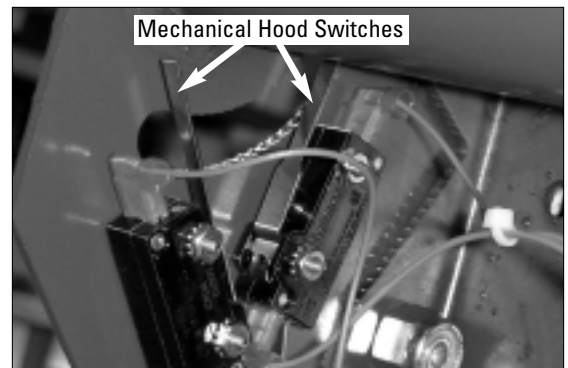
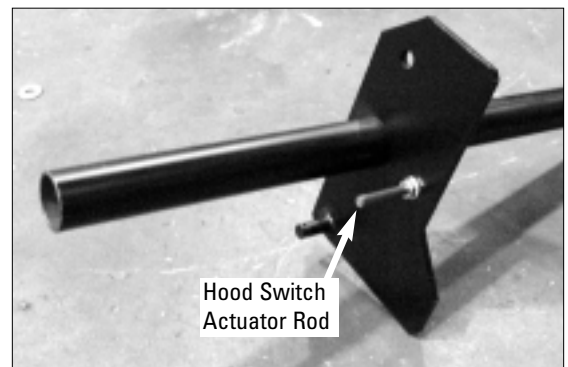

Figure 4 - Mechanical Hood Switches inside the Hood Bracket
Figure 5 - Actuator Rod on the Hood Bar Assembly
- 9.** Locate the slot on the hood bracket labeled "Install Pin Here". The slot is covered by Styrofoam to separate and protect the mechanical switches, shown in figure 4, that are located inside the hood bracket. During installation the switch actuator rod (figure 5) located on the hood assembly can damage these switches if you are not careful.